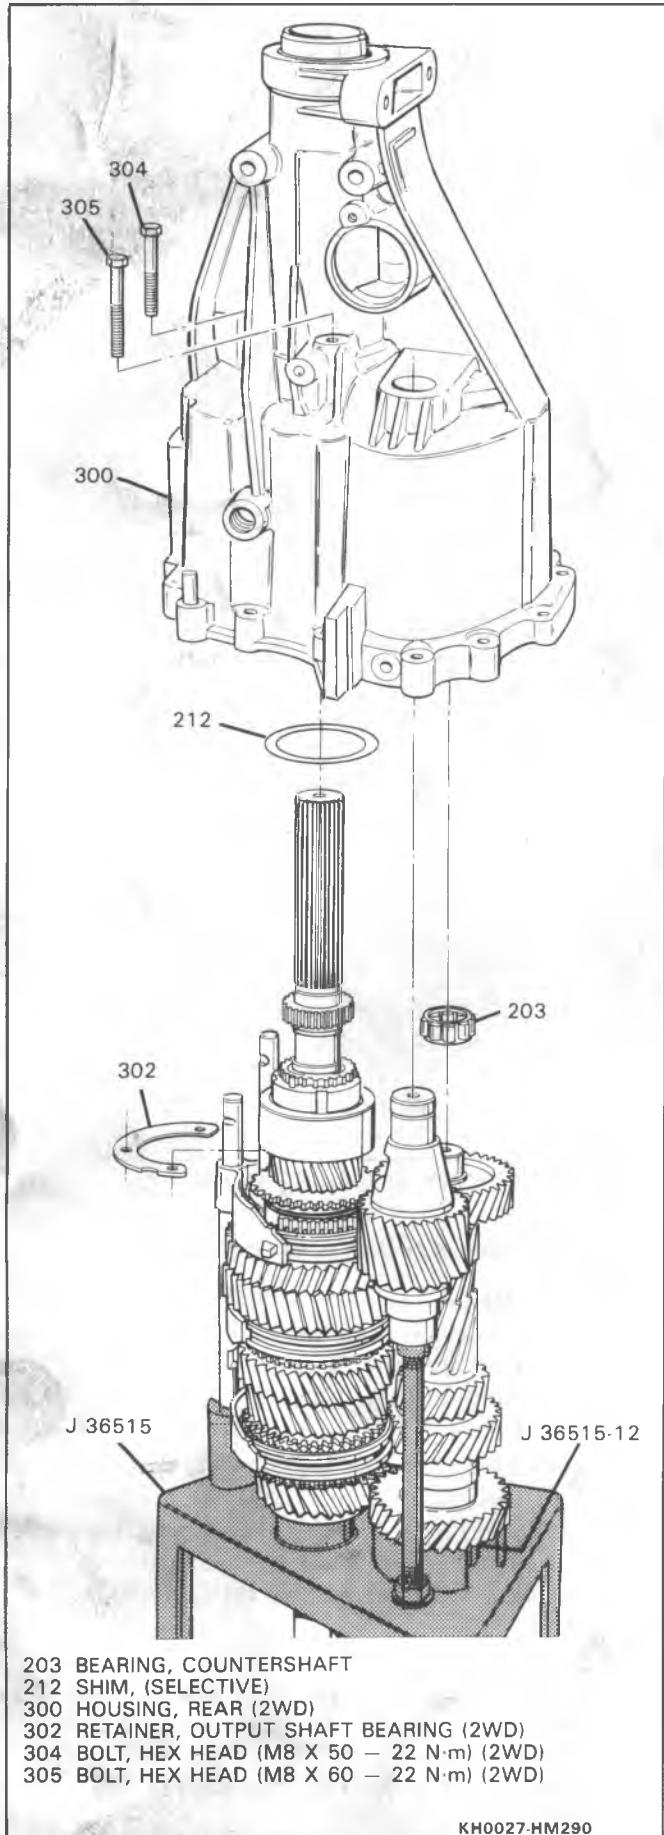
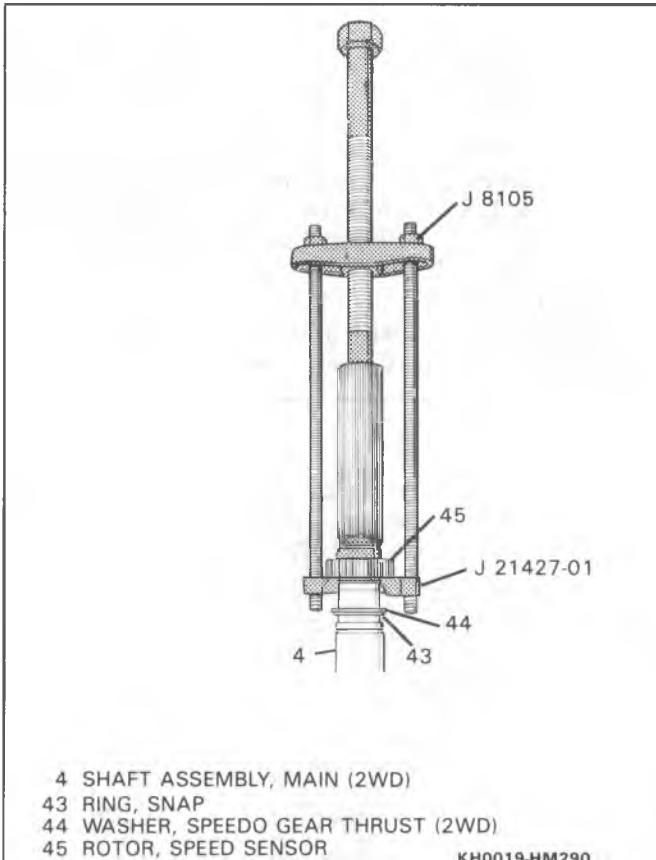

Figure 15 Removing 2WD Rear Housing
Figure 16 Removing 2WD Speed Sensor Rotor
**Remove or Disconnect (Figure 15)****Tools Required:**
- 23. Bolts (304) and (305).
- 24. 2WD rear housing assembly (300).
- 25. 2WD output shaft bearing retainer (302).
- 26. Shim (212).
- 27. Bearing (203).
- Slide the snap ring (43) and washer (44) away from the rotor to make clearance for J 21427-01 (Figure 16).
- 28. Speed sensor rotor (45) using J 21427-01 and J 8105
- 29. Washer (44) and snap ring (43).